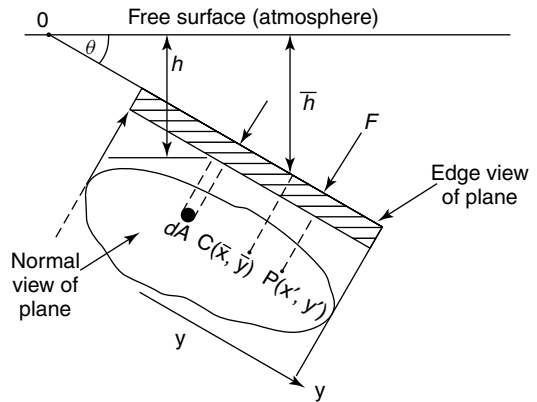

Figure 21.11
Problem 11. Determine an expression for the thrust acting on a submerged plane surface, which is inclined to the horizontal by an angle θ , as shown in Figure 21.11.
From Figure 21.11,
Problem 12. Determine an expression for the position of the centre of pressure of the plane surface $P(x', y')$ of Figure 21.11; this is also the position of the centre of thrust.
- A tank has a flat rectangular end, which is inclined to the horizontal surface, so that $\theta = 30^\circ$, where θ is as defined in Figure 21.11, page 240. If this end is of size 6 m height and 4 m width, determine the thrust on this end and the position of